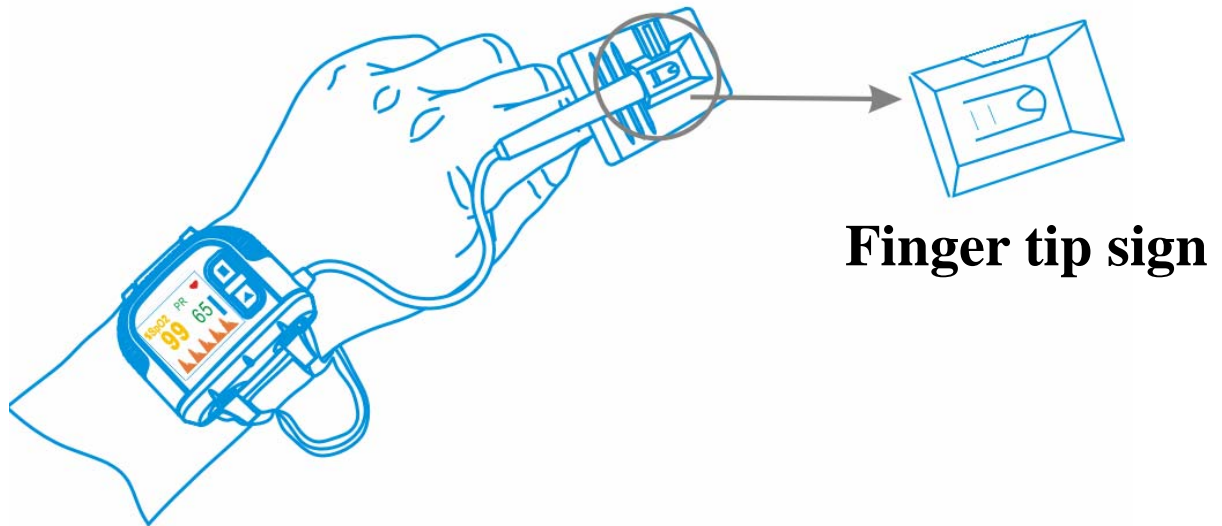

Figure 6 Placement Demonstration
2. Fix the oximeter on your left wrist (Figure 6);
3. Then, hold the probe with its opening towards your index finger. The probe should be oriented in such a way that the sensor side with a finger tip sign is positioned on the top (Figure 6).